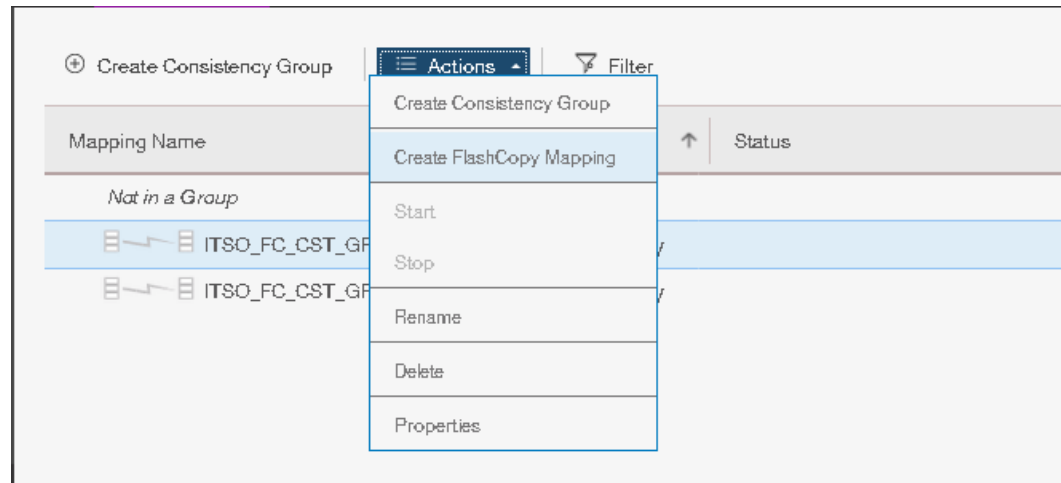

Figure 10-42 Create FlashCopy Mapping action for a Consistency Group
3. If you select a new Consistency Group, click **Actions** → **Create FlashCopy Mapping**, as shown in Figure 10-42.